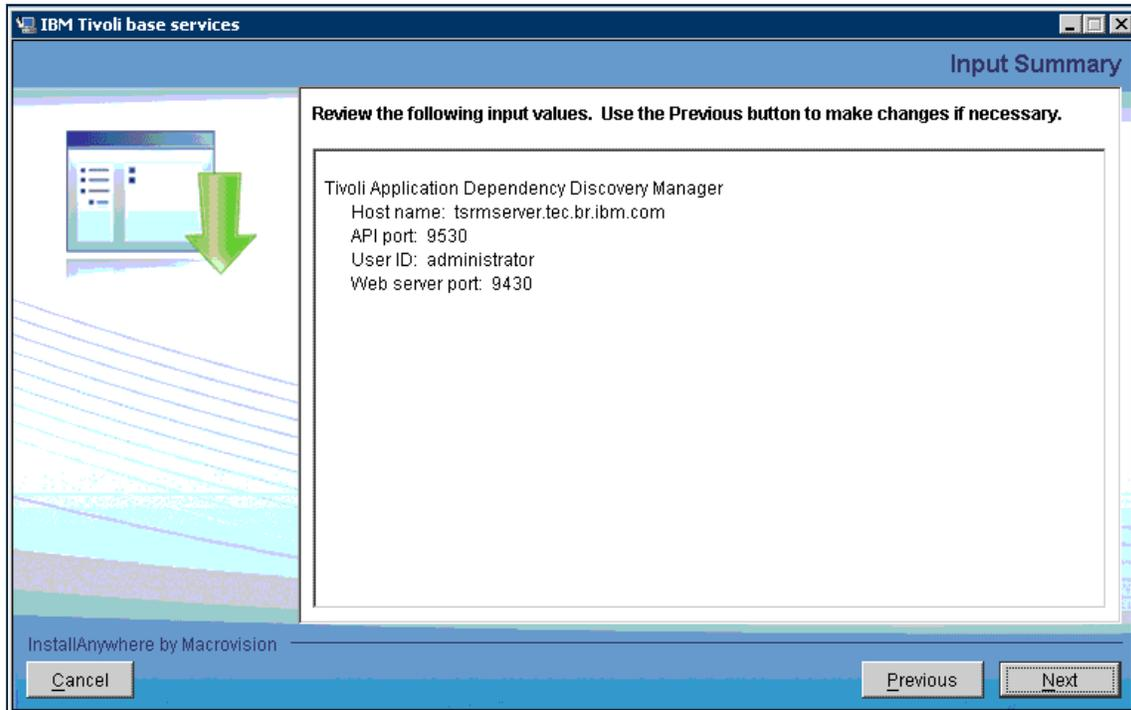

Figure 6-6 Summary window
12. Figure 6-6 on page 196 shows you the information that was entered during the previous steps. Review the information and click **Next**.